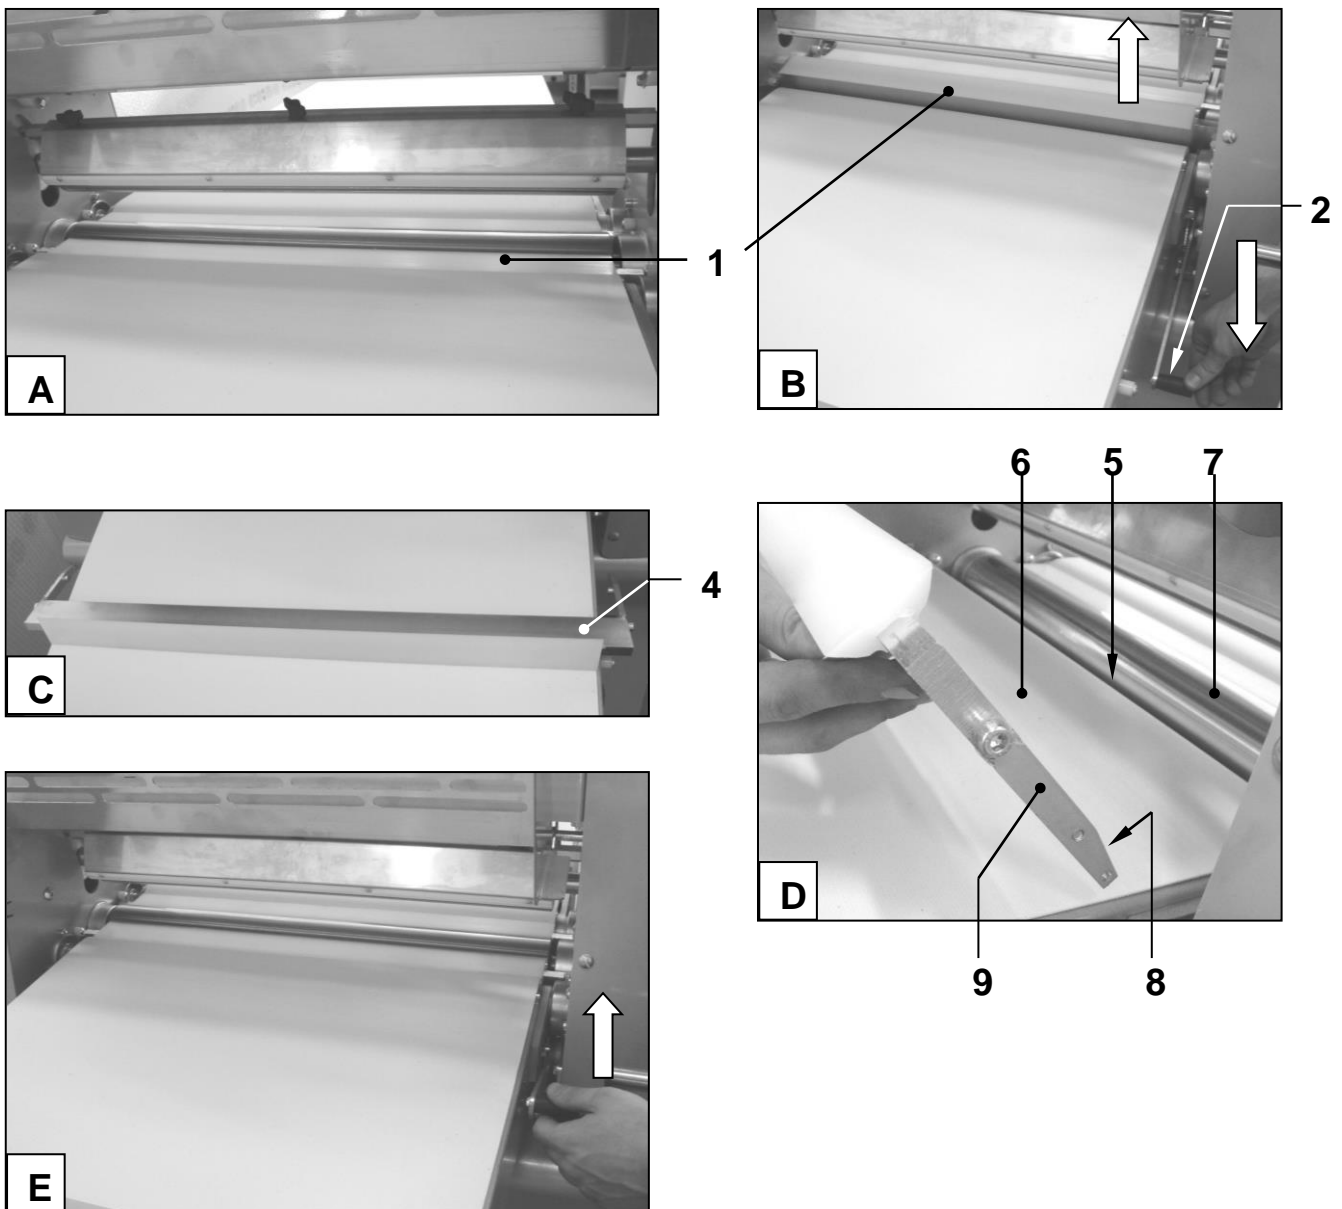

Fig. 7.4
With reference to Figure 7.4, to **disassemble a scraper** ref. 1 completely lower the lever ref. 2; the scraper will detach from the belt and the sheeting roller (photo B) and it will be possible to remove it with an upwards motion.
**To fit a scraper** ref. 1:
- lower the scraper unit ref. 4 into the space ref. 5 between belt ref. 6 and sheeting roller ref. 7; the recess ref. 8 of the plate ref. 9 must be facing away from the roller ref. 7 (photo D);
- let the scraper ref. 1 rest at the end of travel at the bottom, then lift the lever ref. 2 fully (photo E).